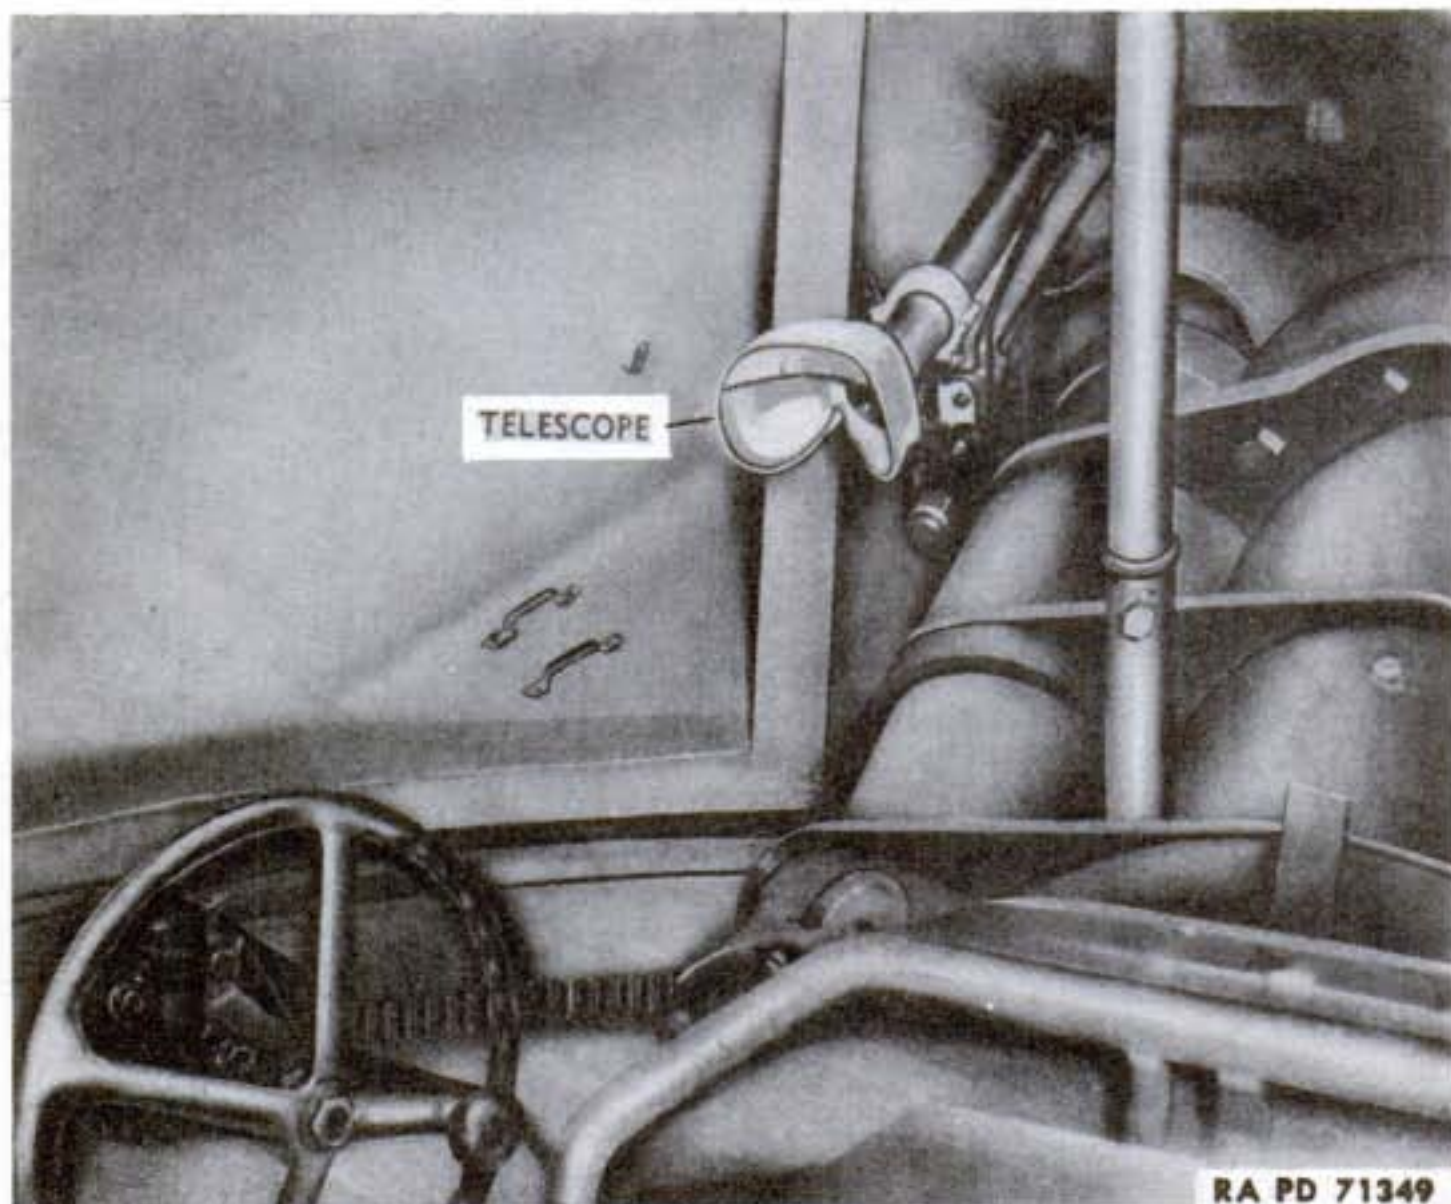

Figure 189—Arrangement of Telescope M51
a. The sighting equipment for the 3-inch gun motor carriage M10 consists of the telescope M51 or M70G, the periscope M6, and the gunner's quadrant M1. Arrangement of the equipment is shown in figure 189.